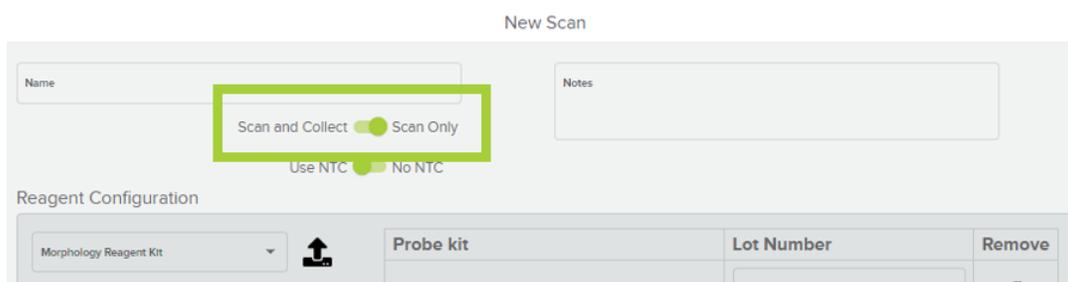

Figure 25: Scan Parameters set to Scan Only mode
- Toggle the slider to **Scan Only** in the Scan Configuration window (Figure 25). Proceed through scan setup to generate a Scan Only record of the slide. When prompted, select **Edit ROIs** to open the **Scan Workspace**.